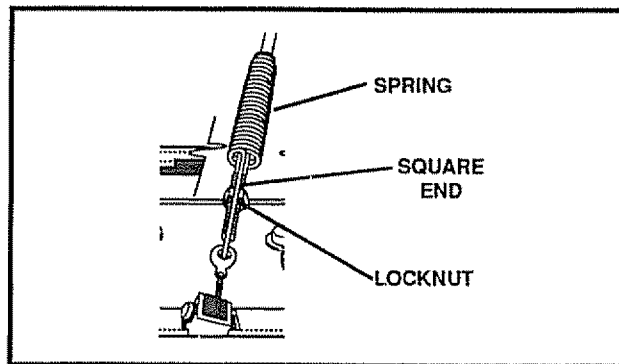

FIG. 24
- Push the cable through the spring (See Fig. 24) to expose the threaded portion of the cable.
- Hold the square end of the threaded portion with pliers and adjust the locknut in or out until the excess slack is removed (See Fig. 24).